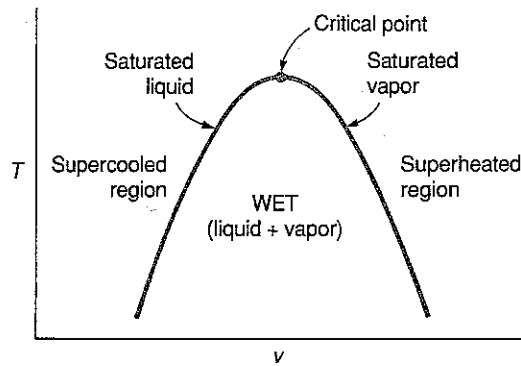

Fig 11-3
1. Always look at the saturation tables first to determine whether the state point is liquid, vapor, or "wet" (Fig. 11-3).